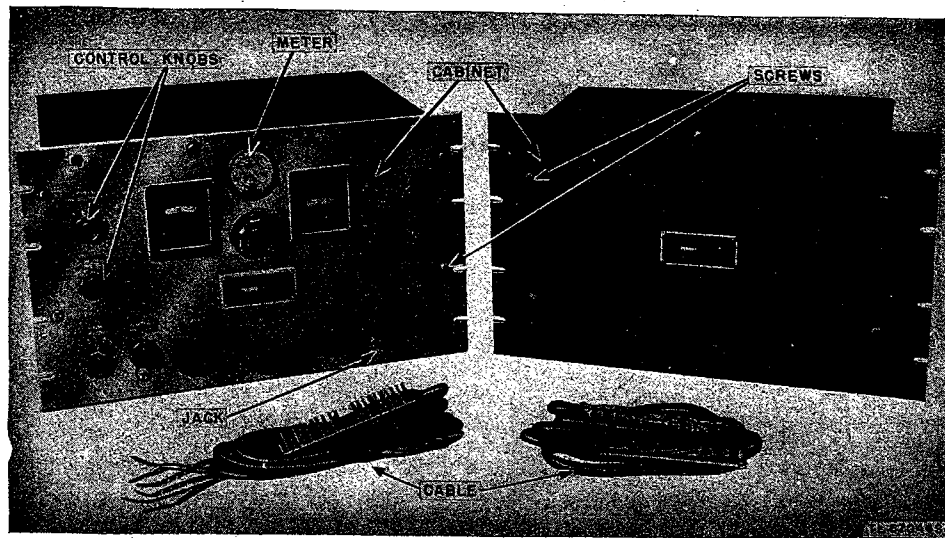

Figure 16. Radio receiver and power supply unit, typical preventive maintenance items, exterior view.
44. Item 1, Exterior of Receiver and Power Supply Unit (fig. 16)**OPERATIONS**